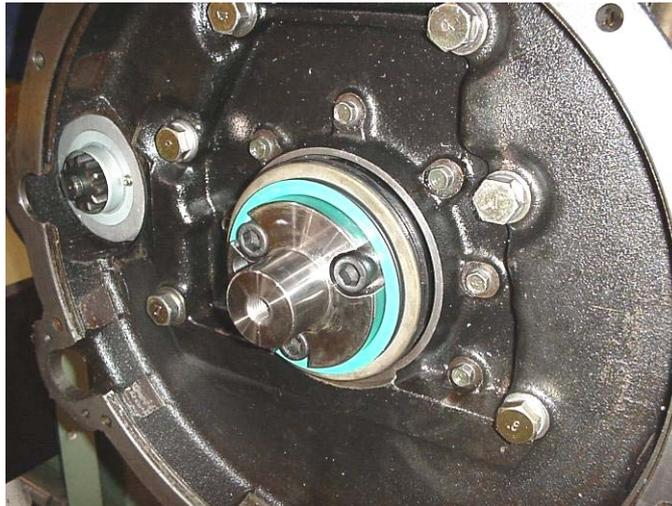

Figure 49 Rear Crankshaft Oil Seal Located on the Crank Plate Ready for Installation
- (5) Lubricate the outside surface of the seal with clean engine oil and do not apply any type of sealant in an attempt to improve the sealing between the housing and the outer surface of the seal.
- (6) Position the seal over the crank plate so that the part number stamped on the flange of the green inner sleeve is visible. Push the seal, by hand, along the crank guide until it contacts the crankshaft (Figure 49).